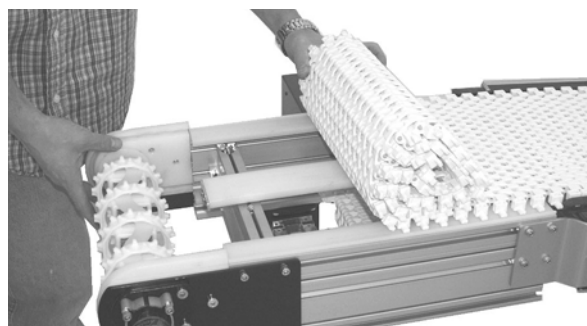

Figure 12
1. Position the belt on the conveyor frame (**Figure 12**).